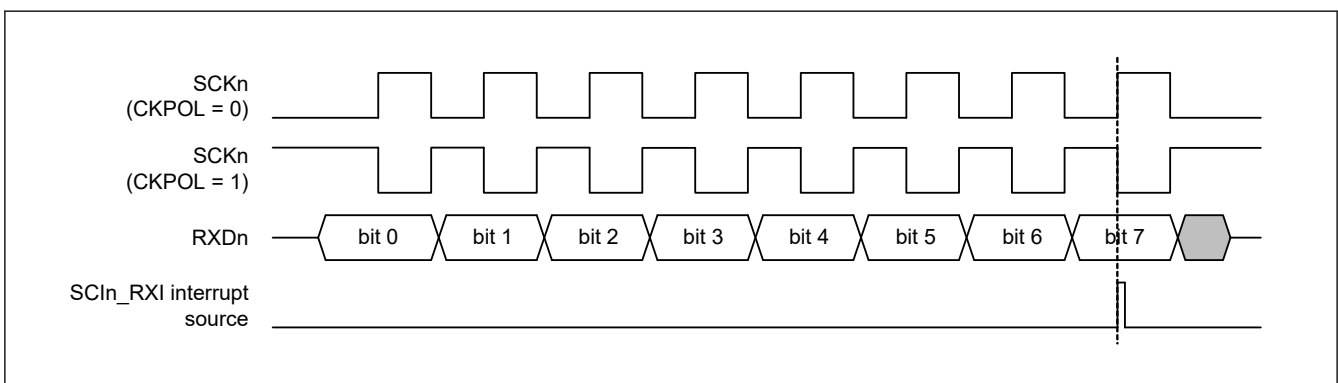

Figure 26.78 Timing of SCI_{In}_RXI interrupt in simple SPI mode with clock delay
- For the clock delay setting (SPMR.CKPH bit is 1), the receive data full interrupt (SCI_{In}_RXI) is generated before the final clock edge on the SCK_n pin as indicated in Figure 26.78. If the TE and RE bits in the SCR register become 0 before the final edge of the clock signal on the SCK_n pin, the SCK_n pin is placed in the high-impedance state, so the width of the last clock pulse of the transfer clock is shortened. Additionally, an SCI_{In}_RXI interrupt might lead to the input signal on the SS_n pin of a connected slave going to the high level before the final edge of the clock signal on the SCK_n pin, leading to incorrect operation of the slave.